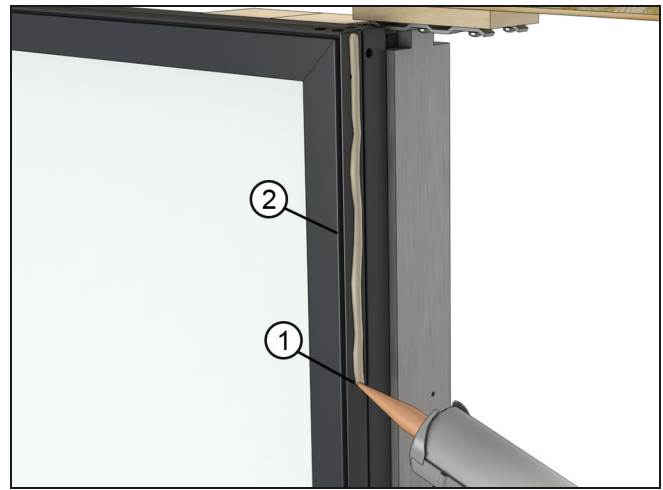

Figure 21
12. Apply a 1/4" bead of sealant beside the exterior frame accessory kerf along the entire length of the mull. See Figure 21.